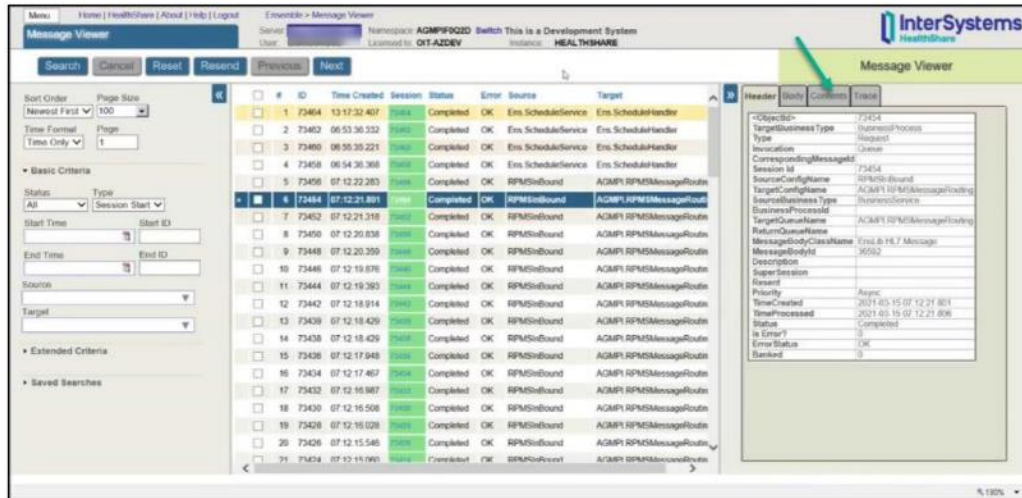
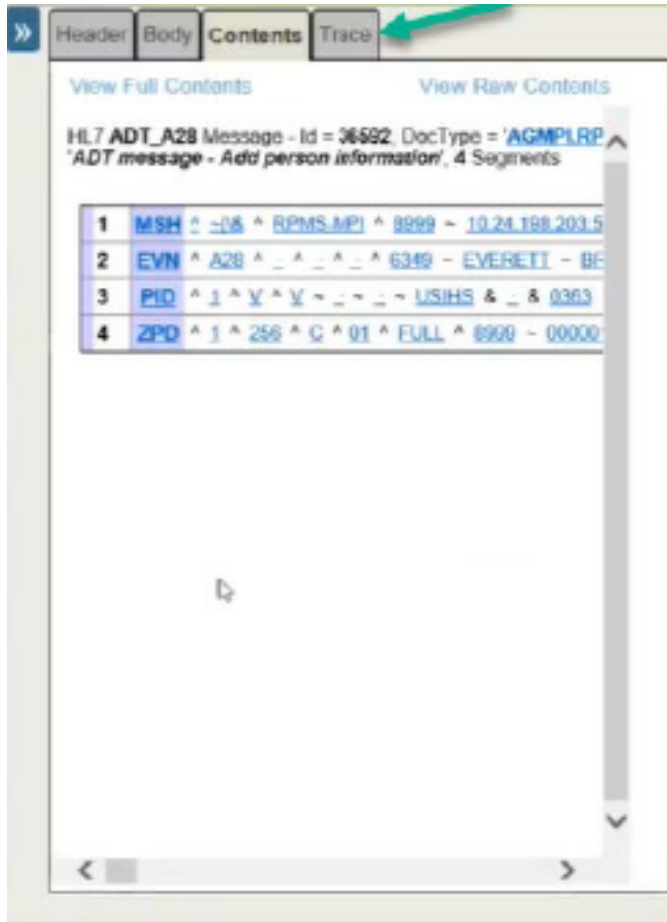

Figure 5-3: Message details
Figure 5-4: HL7 message
3. Click on a message to see the details for that message (Figure 5-3).
- Click on the **Contents** tab to see the HL7 message (Figure 5-3, green arrow). The HL7 message opens (Figure 5-4).
- To view the content detail of the HL7 message, click on **View Full Contents** or **View Raw Contents** (Figure 5-4).
- Click on the **Trace** tab (Figure 5-4, green arrow) to see the flow of the message through Ensemble.